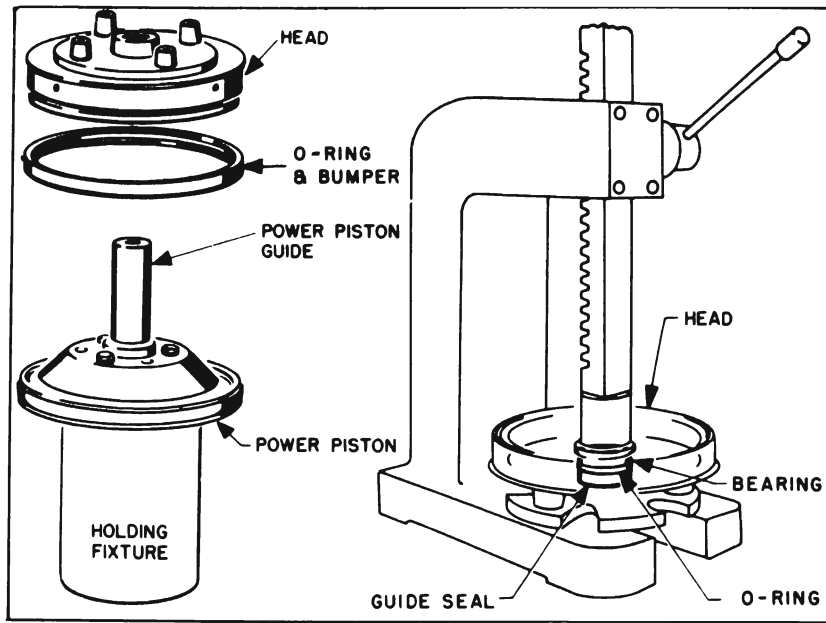

Figure 8-7—Removal and Disassembly of Head
piston downward on a holding fixture consisting of an 8 inch length of 4 inch pipe, or its equivalent. Lift head off of piston guide, then remove O-ring and bumper from rim of head. See figure 8-7.
8. Place head in arbor press with inside rim upward and press out the bearing, O-ring and guide seal. See figure 8-7.